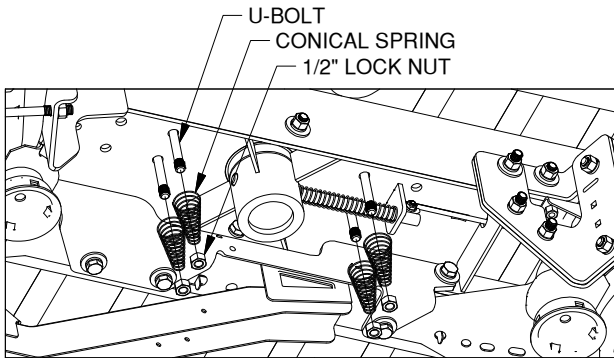

Figure G2: View under the bed looking back at the rear of the truck.
3. **Add springs.** Place a conical spring over each leg of the U-bolts and secure with a 1/2" lock nut, see Figure G2. Tighten the lock nut until the nut is flush with the end of the U-bolt.